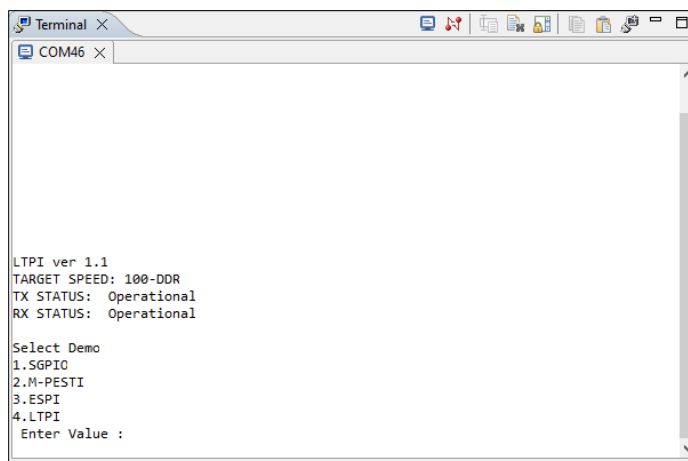

Figure 6.14. Demonstration Menu Screen
3. After power on, the demonstration menu screen is printed on the UART terminal (Figure 6.14).